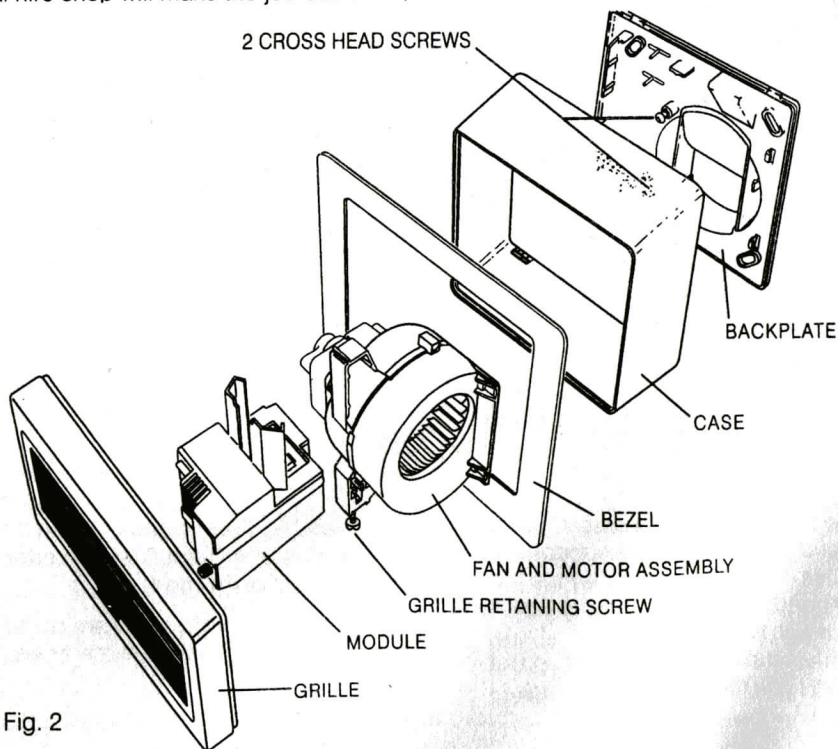

Fig. 2
**5.1** Dismantle the unit by first undoing the slotted screw on the underside of the grille a few turns and removing the grille by pivoting it about its top edge. Remove the module by lifting and pulling it out. Release the fan and motor assembly by undoing the two cross-headed screws several turns and sliding the assembly to the right (see Fig. 2). To ease installation it is best to spring the backplate out of the case.
**7.4** Dismantle the unit (see Section 5.1 and Fig. 2).
**8.4** Dismantle the unit (see Section 5.1 and Fig. 2). For this installation it is best not to separate the case and backplate.
**9.2** Dismantle the Loovent or Humidivent (see section 5.1 and Fig. 2). For window installation, do not separate the case and backplate.